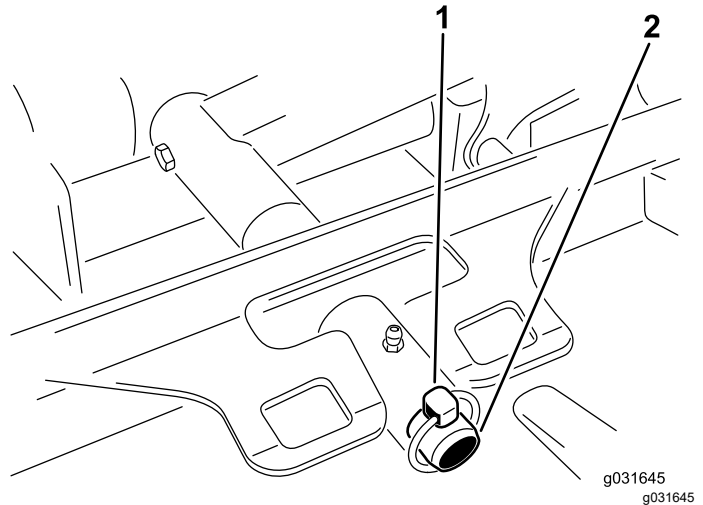

Figure 70
3. Remove the lynch pin or retaining nut securing the cutting unit carrier frame to the lift-arm-pivot pin (Figure 70).
3. Slide the cutting unit carrier frame onto the lift-arm-pivot pin and secure it with the lynch pin or retaining nut (Figure 70).